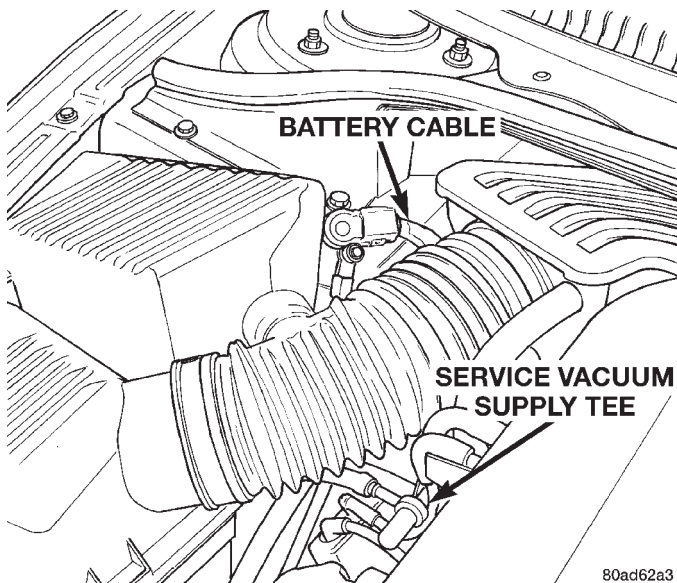

Fig. 23 Battery Cable
(4) Disconnect battery cable (Fig. 23).